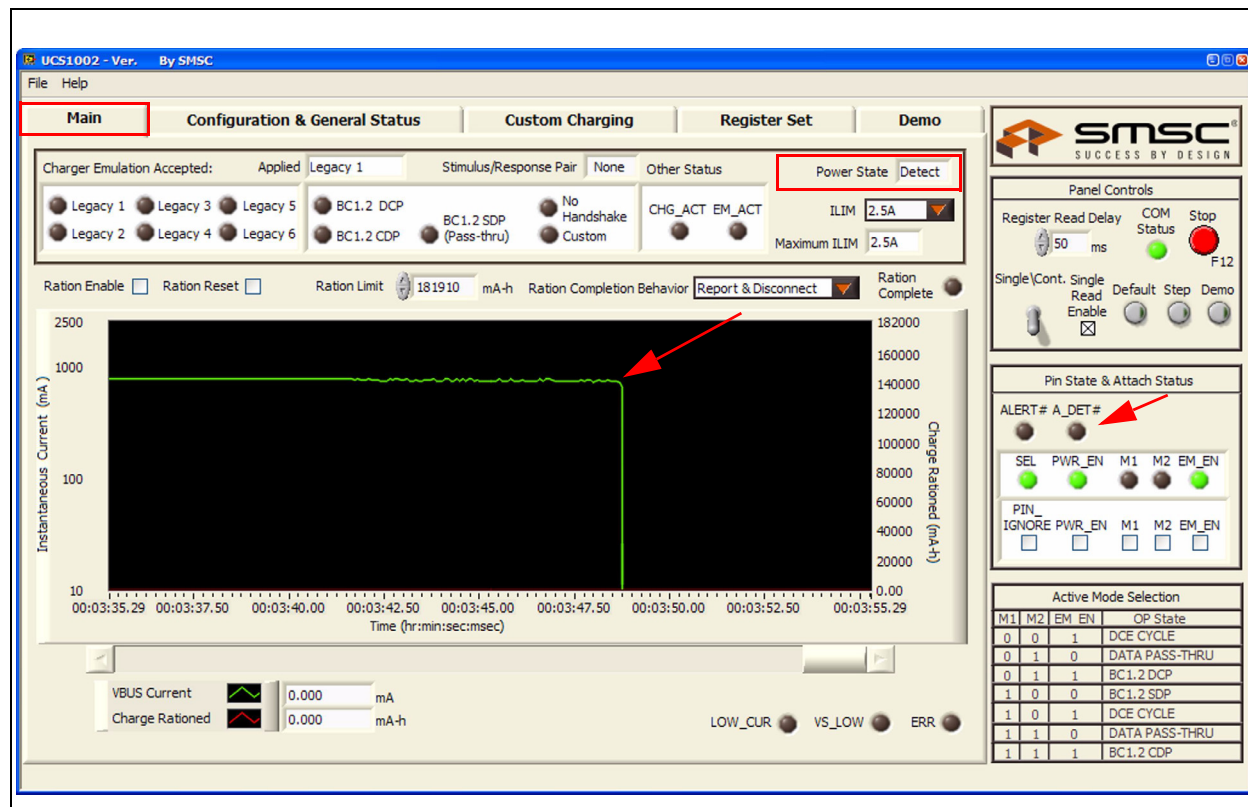

Figure 7.3 Main Tab - Removal
5. The UCS1002 should detect a removal, switch to the Detect power state, and stop delivering a charge. Figure 7.3 shows the GUI after a removal was detected.